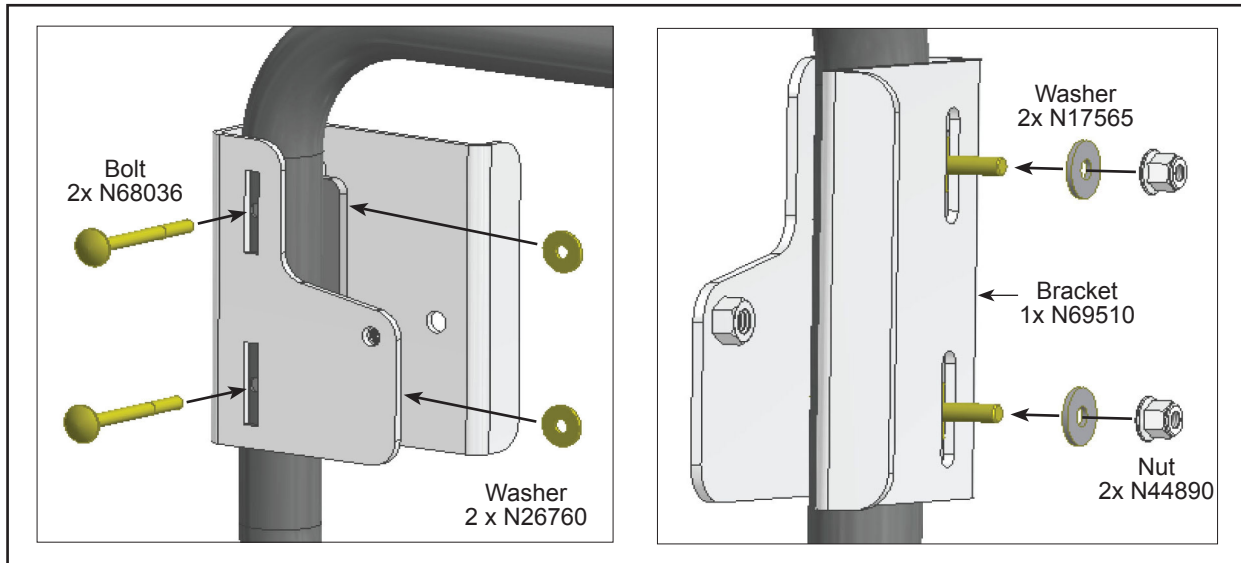

Figure 4 - Assembly of the New Plate on the Handrail
1.4. Assemble the parts on the handrail as indicated in Figure 4. Wait for the final adjustment before tightening them.